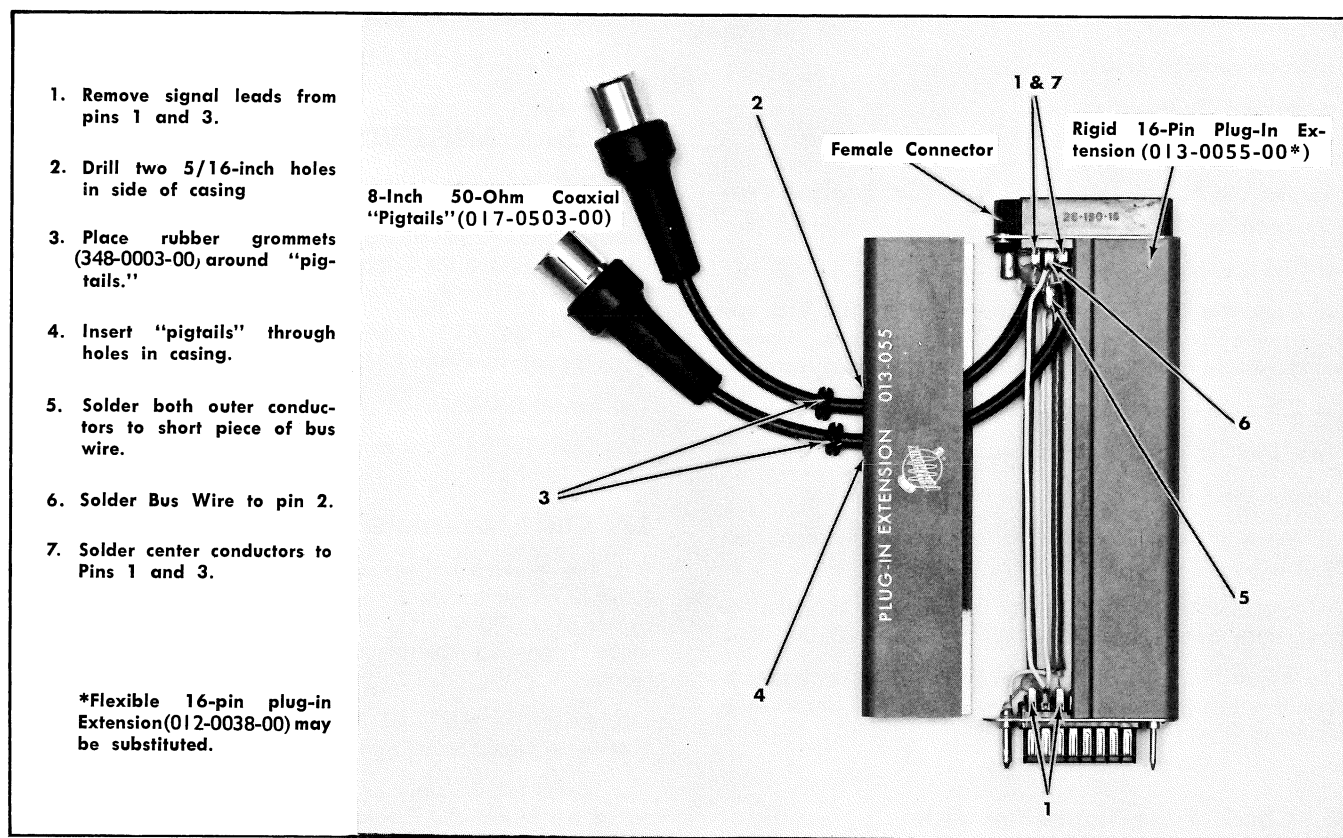

Fig. 5-6. Construction of special extender for checking pulse risetime. Tektronix part numbers are given in parenthesis.
- e. Insert the special plug-in extension (see Fig. 5-6) in the plug-in jack.
- h. Place the coupling capacitors (item 9 of Equipment Required) on the input connectors of the sampling oscilloscope.